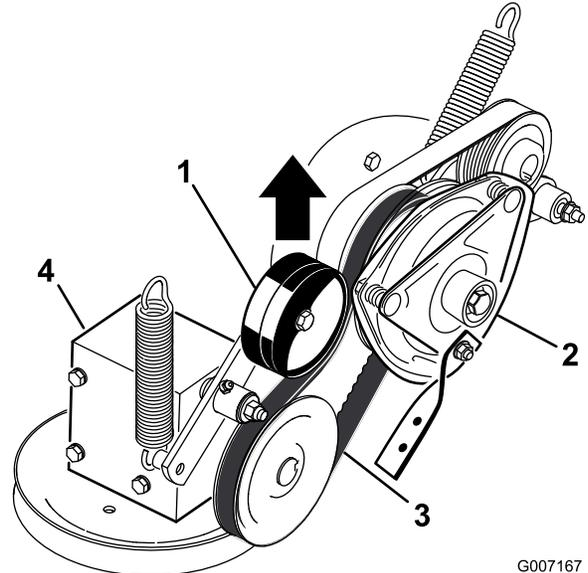

Figure 81
5. Pull up on the spring-loaded idler pulley for the PTO-drive belt and remove the belt from the clutch pulley (Figure 81).
17. Pull up on the spring-loaded idler for the PTO-drive belt and install it onto the clutch pulley (Figure 81).